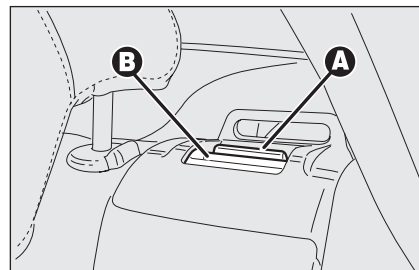

fig. 29
- pull up lever **A-fig. 29** and tilt the rear seat backrest forward (a "red band" **B** will appear);